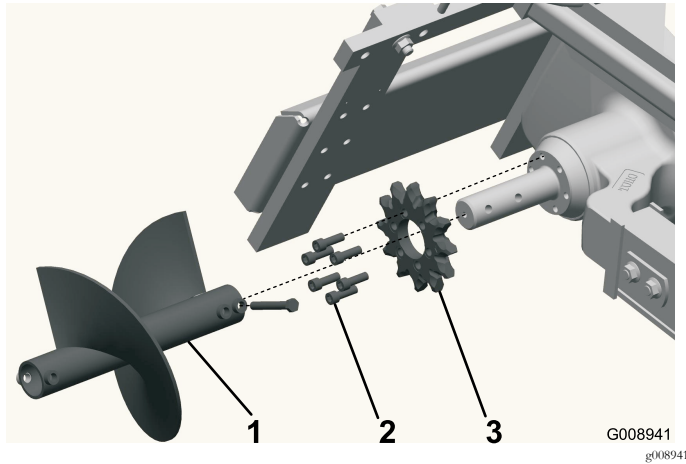

Figure 11
3. Remove the spoils auger (Figure 11).
8. Remove the 6 bolts securing the drive sprocket (Figure 11).
9. Remove and discard the drive sprocket (Figure 11).
11. Slide the new sprocket onto the shaft as illustrated in (Figure 11).
12. Thread the 6 bolts into the sprocket finger tight (Figure 11).